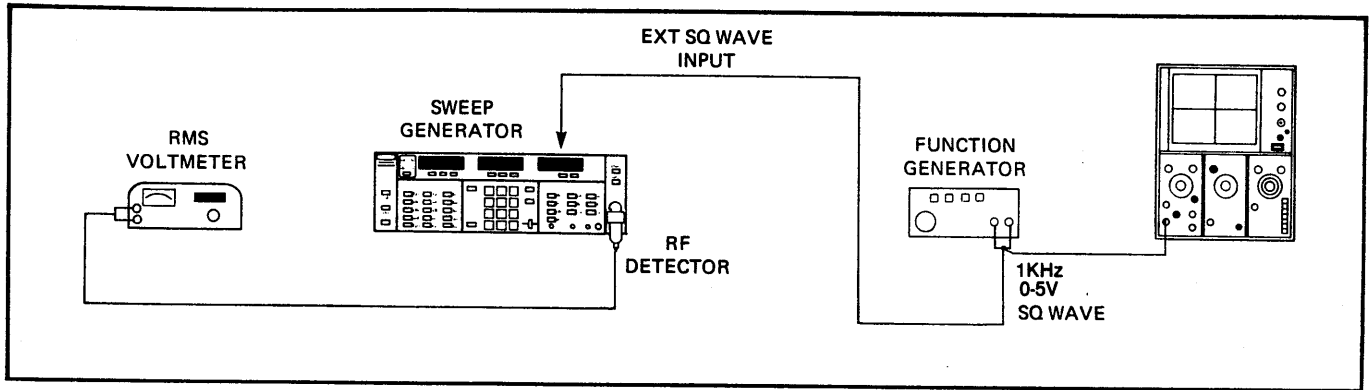

Figure 4-8. Test Equipment Setup for Residual AM Test
- a. Connect the test equipment as shown in Figure 4-8, and turn the equipment on.